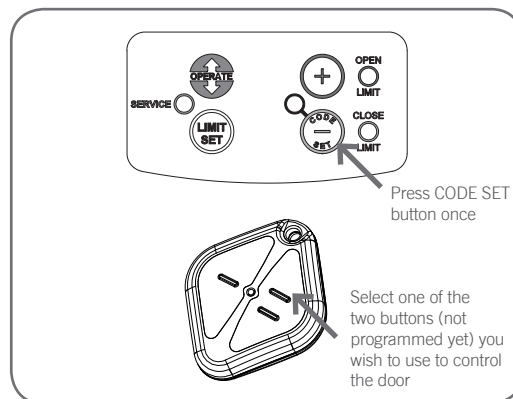

Fig.13
- Press the CODE SET button and release. The CODE SET LED will illuminate to indicate the opener is in Code Learn mode. If a valid code is not stored within 15 seconds, the opener will exit Code Learn (**Fig. 13**).